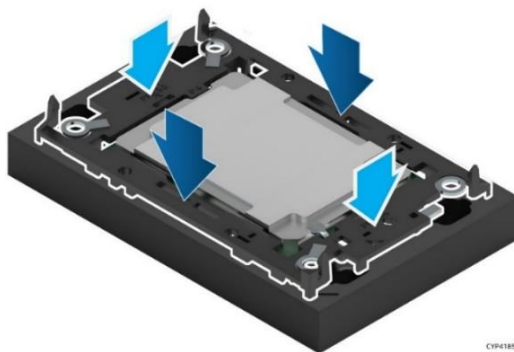

Figure 10. Installing Processor Carrier Clip onto Processor – Part 2
2. Attach the Processor Carrier Clip to the Processor (see Figure 10)